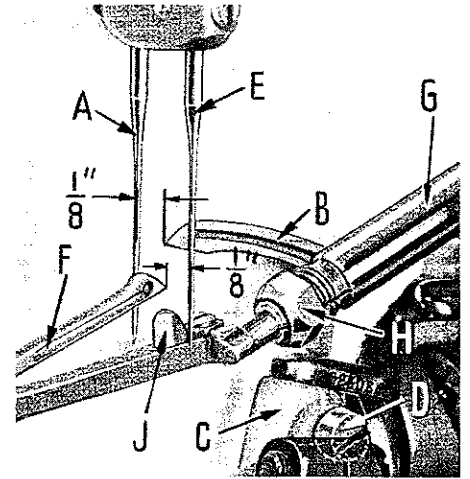
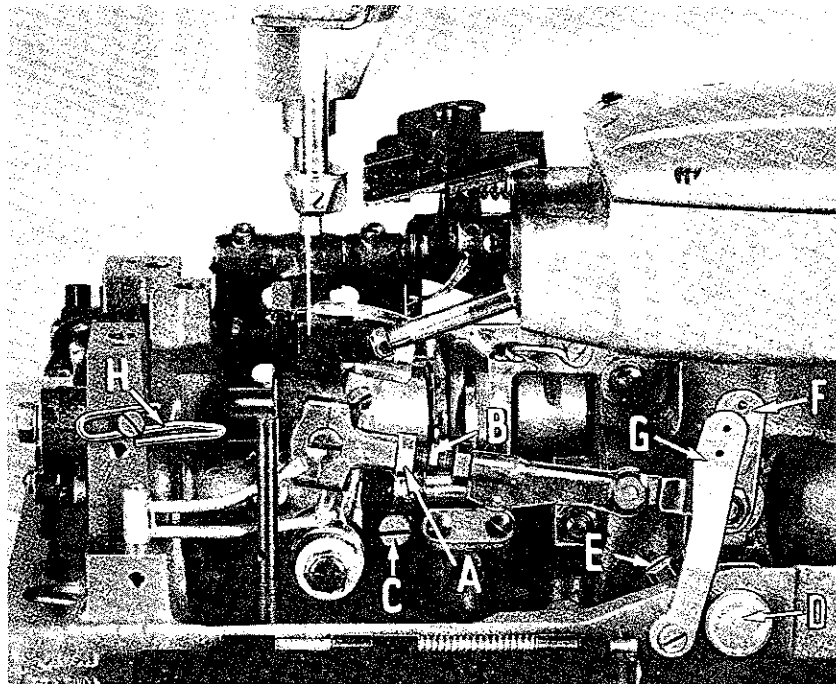

Fig. 3
Fig. 4
Insert the rear needle (A, Fig. 3), Type 108 GS, size as specified and insert the 401 stitch looper (B) in the looper rocker (C), and tighten screw (D). Rotate hand-wheel in operating direction until back looper is in the extreme right position. The looper should be set so that its point is  $\frac{1}{8}$  inch from the center of the back needle, as in Fig. 3. Looper gauge No. 21225- $\frac{1}{8}$  can be used advantageously in making this adjustment. If adjustment is needed, loosen nut (A, Fig. 4) (it has a left hand thread) and also loosen nut on right end of connecting rod (B), turn connecting rod forward or backward to obtain  $\frac{1}{8}$  inch, and retighten both nuts.
Insert the front needle (E, Fig. 3) and also insert the 503 stitch looper (F) in the lower looper bar (G), and tighten nut (H). Rotate handwheel in operating direction until front looper is in the extreme left position. The looper should be set so that its point is  $\frac{1}{8}$  inch from the center of the front needle, as in Fig. 3. Looper gauge No. 21225- $\frac{1}{8}$  can be used advantageously in making this adjustment. If adjustment is needed, loosen nut (H) and slide looper in or out of its holder and retighten nut.
With the back looper (B, Fig. 3) in the looper rocker (C), turn the handwheel in the operating direction until the looper moves to the left and its point is even with left side of the needle (A). Note the height of the eye of the needle with respect to the looper point, then turn the handwheel in the reverse direction until the looper point again moves to the left and is even with the left side of the needle.
If the motions are synchronized, the height of the eye of the needle with respect to the looper point will be the same. A variation of .005 inch is allowable. If the distance from the eye of the needle to the point of the looper is longest when the pulley is turned in operating direction, move the looper drive lever shaft synchronizing stud (D, Fig. 4) to the rear. Moving it in opposite direction acts the reverse.
Moving of the looper drive lever shaft synchronizing stud is accomplished as follows: Loosen clamp screw (E, Fig. 4) of looper drive lever.
The 503 looper thread take-up (F, Fig. 4) should be positioned approximately on the center line of the looper drive lever as per Fig. 4. Eyelets (G, and H, Fig. 4) are positioned correctly when the lower looper thread is taut as the spreader reaches the left end of its travel.
To control the ratio of thread pulled during the leftward movement, use the thread take-up eyelet (G, Fig. 4).
Moving this eyelet to the left causes more looper thread to be drawn on the left hand stroke of the spreader, and moving it to the right causes less looper thread to be drawn. Moving this eyelet to the right or left also affects the drawing of the looper thread at the extreme left position. To readjust for this condition, move the eyelet (H, Fig. 4) to the right to reduce the thread drawn or to the left to reduce the amount of slack. The two eyelets (F and G) are to be adjusted in conjunction with each other so that the following conditions are met: (1)  $\frac{1}{3}$  of the looper thread is drawn during the left stroke of spreader, and (2) No looper thread is drawn at the extreme end of stroke.